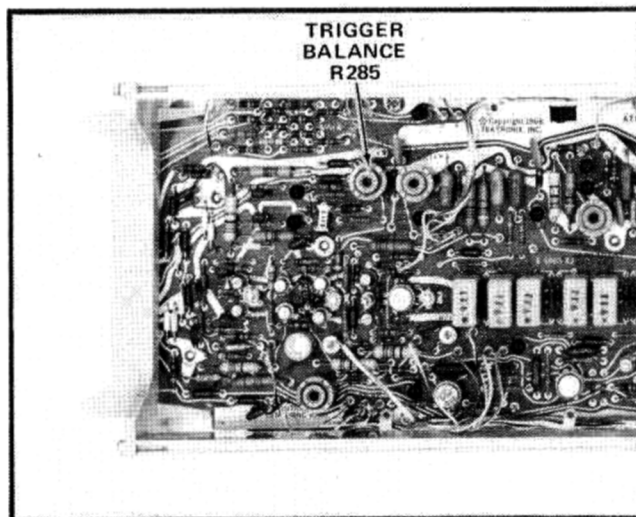

Fig. 5-19. TRIGGER BALANCE adjustment location, step 17.
i. (Calibration Procedure only.) **ADJUST**—TRIGGER BALANCE R285 (Fig. 5-19) as necessary to set the trace on the Sampling System CRT to graticule center.